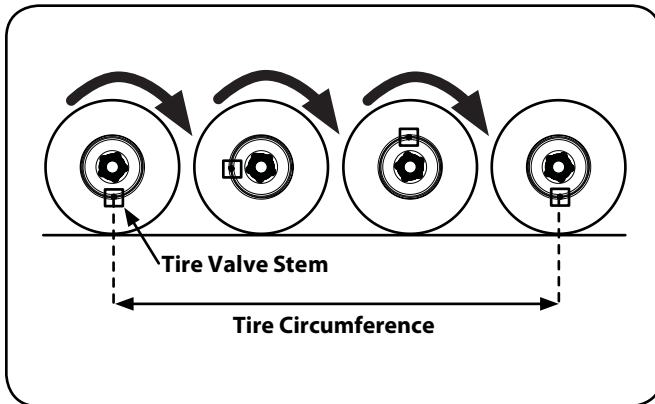

Figure 5-14
- To measure the new tire circumference, mark the ground with the tire valve stem at the bottom. Roll the UV forward until the tire makes one full rotation and mark the ground again; measure the distance between the marks to get the tire circumference. See Figure 5-14.